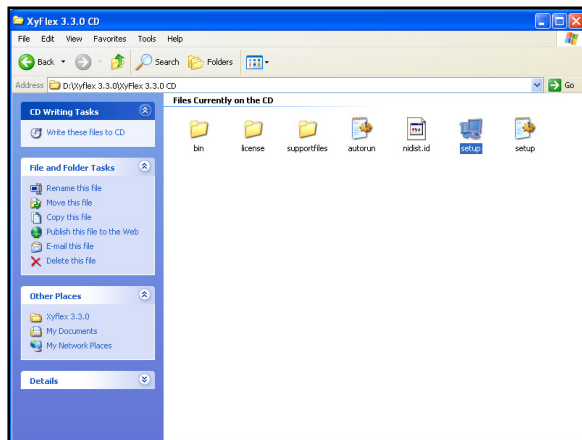

Figure 1. XyFlex™ CD contents.
3. Double-click the “Setup” icon (Fig. 1).